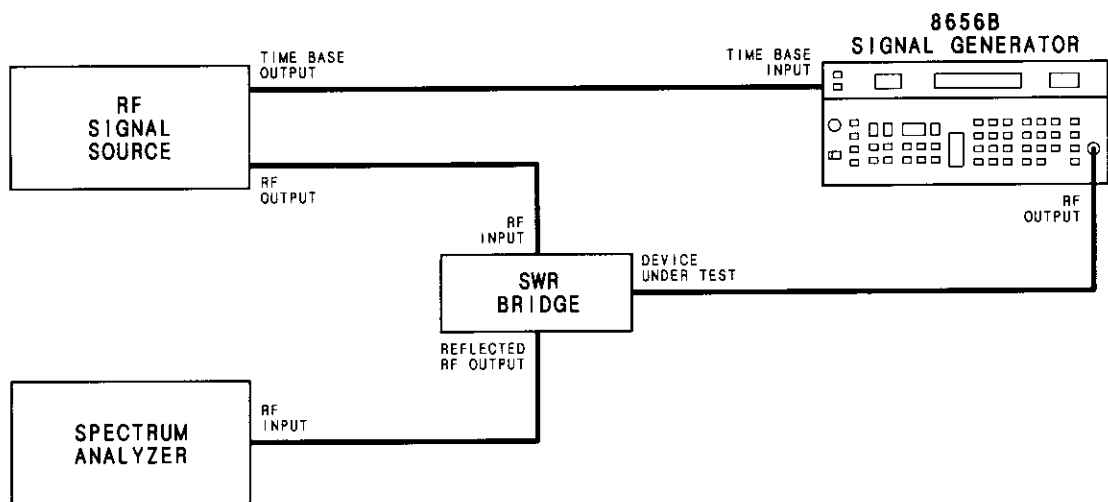

Figure 4-12. SWR Performance Test Setup (Out of Band)
2. Connect the equipment as shown in Figure 4-12.
- 7. Connect the equipment as shown in Figure 4-12.